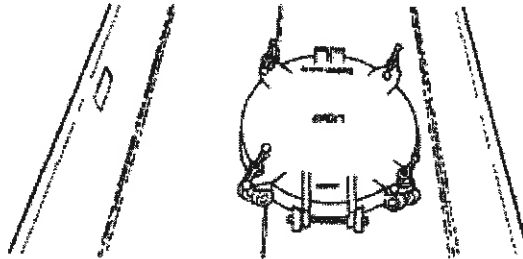

Figure 55 Manhole Cover
- a. Loosen the four wing nuts securing the manhole cover to the tank (Figure 55).